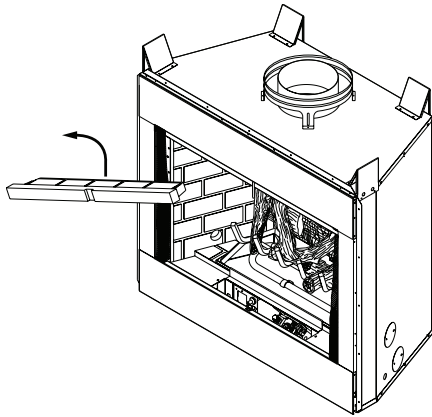

Figure 13 - Removing Front Refractory Access Panel
1. Remove front refractory access panel by lifting up and angling out of firebox opening (see **Figure 13**).